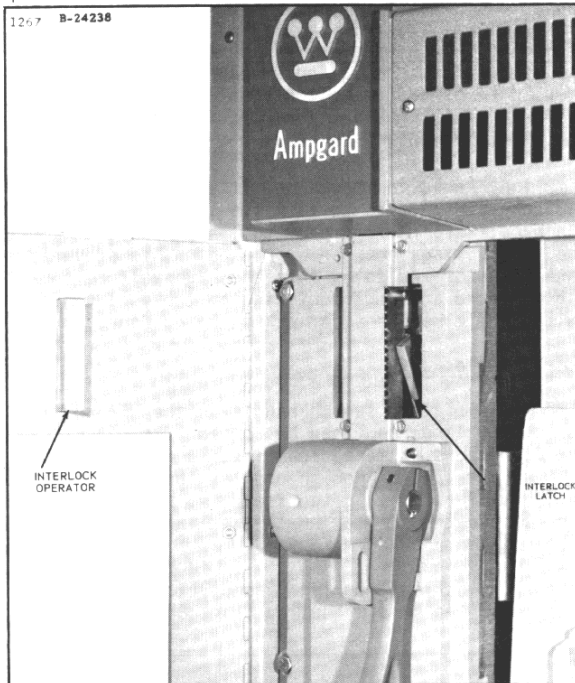

Fig. 6 (Photo B-24238)
This interlock is a spring loaded latch located just above the handle housing (Fig. 6). This
- 3) Remove the two screws holding the interlock operator (Fig. 6). These screws are located in the door just above the handle operating shaft. This will disengage the door from the mechanical interlock, and allow it to be opened. Maintenance can then be performed.